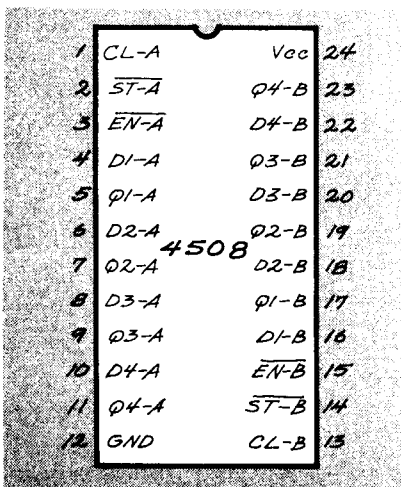

FIG. 2—AN EIGHT-BIT LATCH can be formed by tying together the two control pins of a CD4508B dual four-bit latch.
To provide an approximate reference, the approximate or average levels of common sounds are shown in Fig. 2.
Q. Fig. 2 shows that classical music can become quite loud also. Why isn't it as dangerous to human hearing as rock music or disco sound?
The simplest solution is with a 4508 dual 4-bit latch whose pinout diagram is shown in Fig. 2. By tying the control pins of each half of the latch together, I can use it as a single eight-bit latch.